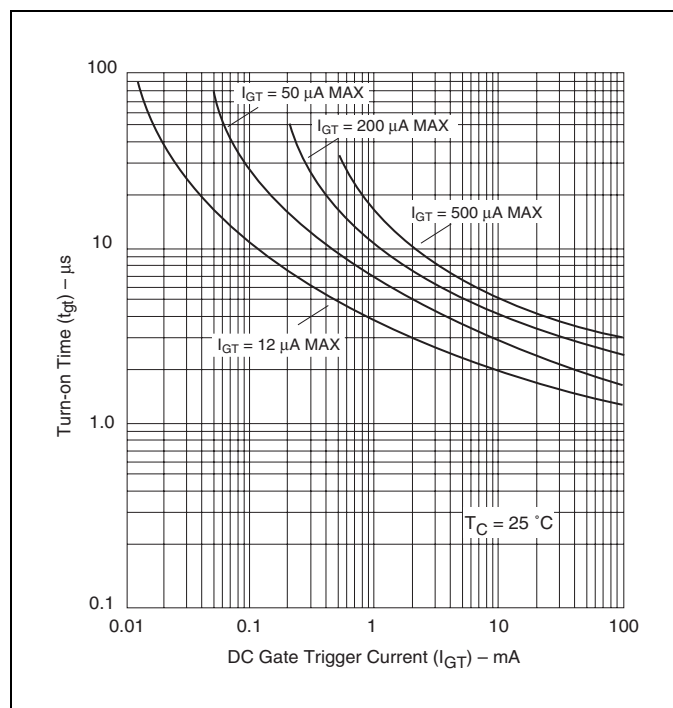

Figure E5.15 Typical Turn-on Time versus Gate Trigger Current
- See Figure E5.15 for t_{gt} versus I_{GT} .